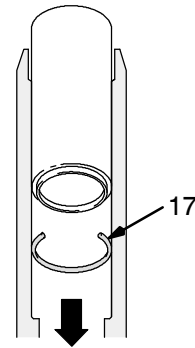

Fig. 22
Fig. 22 and parts lists. Place o-ring (17) in cylinder. Slide sleeve in to cylinder up side down to seat o-ring. Remove sleeve.